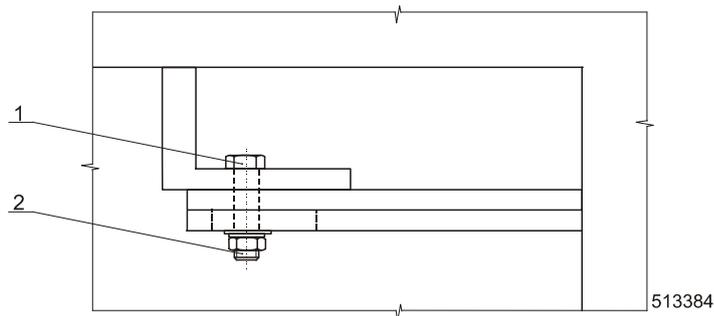

Fig.4.5.A Transport brace
Before you put the machine in operation, remove four transport braces securing the vibrating machine components during the transport. Every transport brace, fig.4.5.A. consists of one red roller, bolt M12, fig.4.5.A., pos.1 and nut M12 (2). Transporting braces are accessible after removing lower covers which are located under the machine door. After you have removed the braces, mount the covers back to their place.